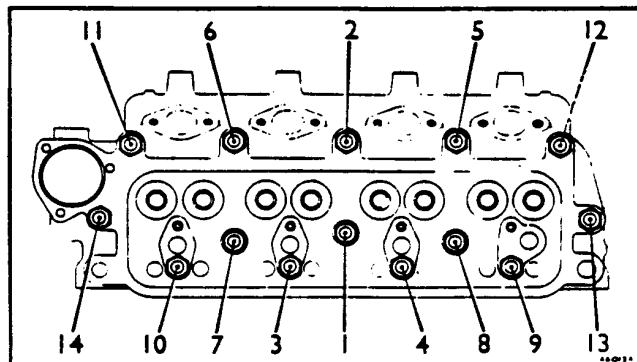

Fig. 1
- b. Tighten the cylinder head nuts in the order shown in Fig. 1.